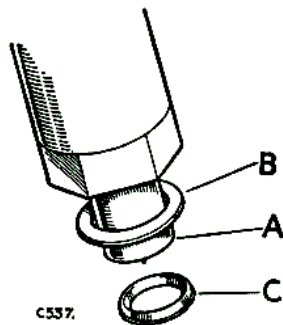

Fig. A-430—Position of injection nozzle washers
*Note:* Ensure that the bottom steel washer (corrugated) is replaced correctly, when refitting injectors. See Fig. A-430.
Make sure the injector washers are fitted correctly. See Fig. A-430.